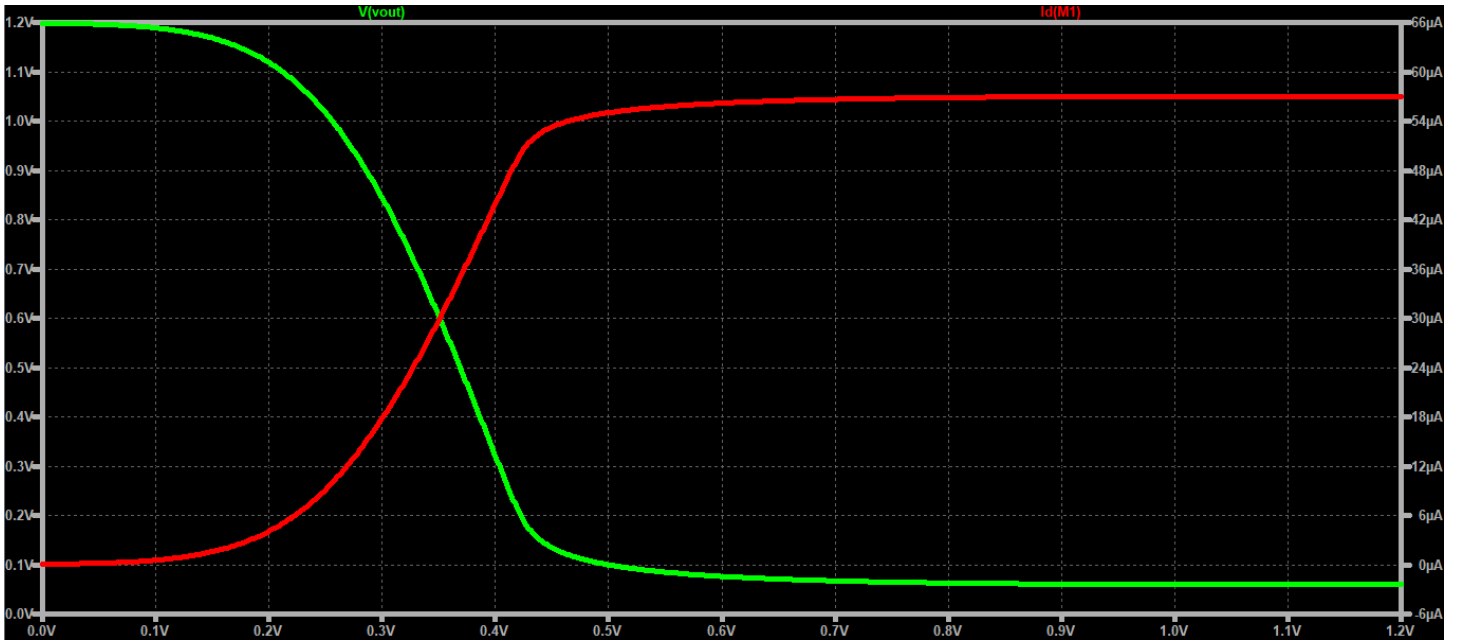

Figure 2.6 V_{OUT} and I_{DS} vs $V_{IN} = V_{GS}$
3. Plot V_{OUT} and I_{DS} on the same plotting plane. You should get Figure 2.6.